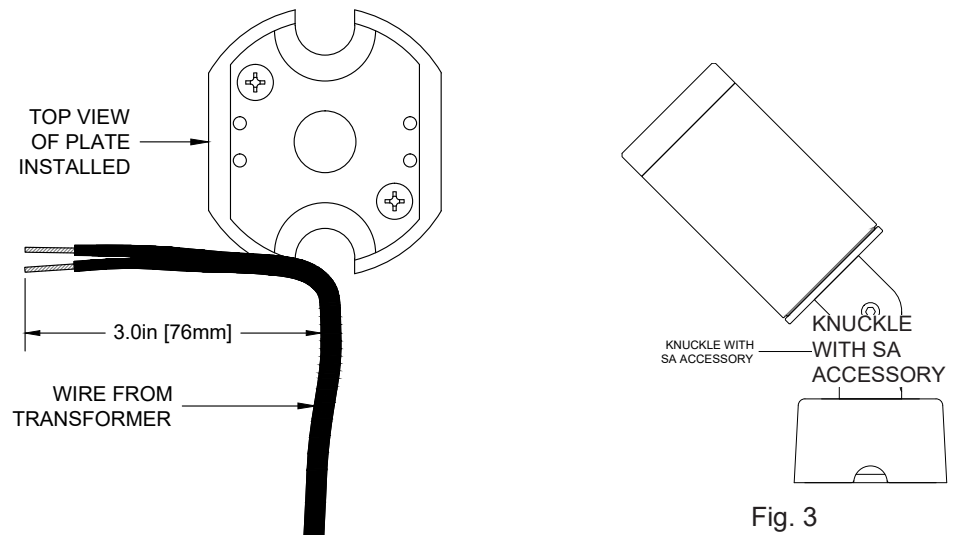

Fig. 1
3. Position the Plate at desired location with back (flat side) against tree. For wiring coming from below, make sure Plate's mounting holes are parallel to ground. (Figure 1) For horizontal wiring (from back side of tree), orient mounting holes perpendicular to ground. Use enclosed #10 stainless steel sheet metal screws to secure Plate in place.